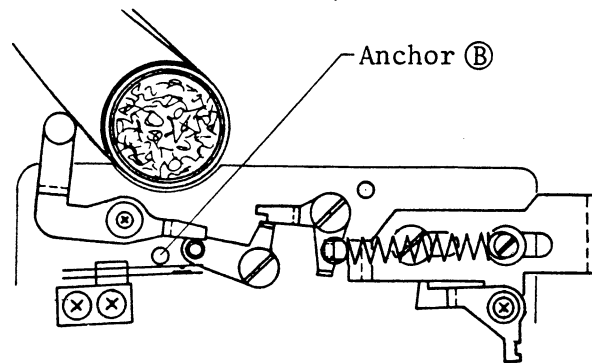

Fig.13
Note: When releasing the third lever from the second lever, the SW2 starting switch must be off and its upper contact must not touch to the anchor ⑧ as shown in Fig. 13.